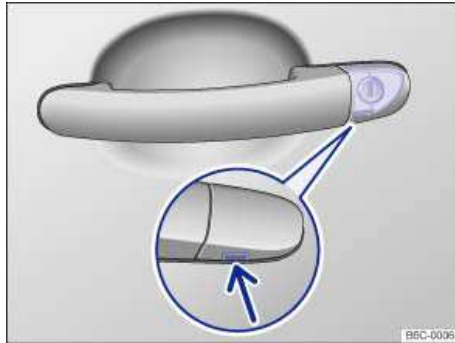

Fig. 153 Door handle on driver door: Concealed lock cylinder.
- Insert the key bit from below into the opening of the cover cap on the driver door ⇒ fig. 153 (arrow) and lift the cover cap off. Grasping the door handle and pulling slightly makes it easier to remove the cap.